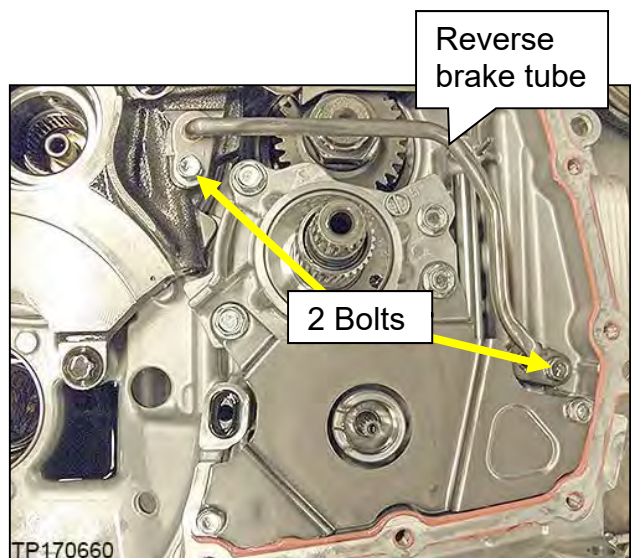

Figure 76
54. Remove the two (2) bolts shown in Figure 76 and then remove the reverse brake tube from the CVT.